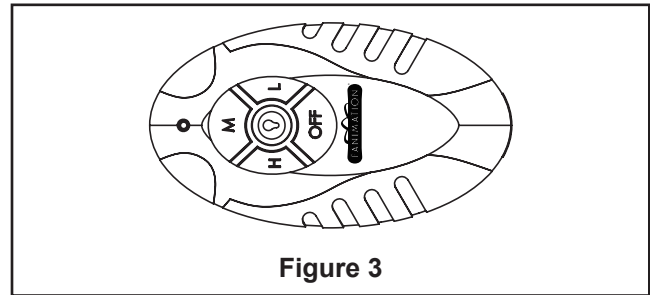

Figure 3
3. Loosen the two set screws in the downrod support. Route blue, brown and orange lead wires through the downrod (Figure 3).
2. Carefully lift the fan and seat the downrod/hanger ball assembly on the hanger bracket that was just attached to the outlet box. Be sure the groove in the ball is lined up with tab on the hanger bracket (Figure 3).
2. Connect wires to terminal block as indicated: Green hanger bracket and hanger ball wires to green/yellow (earth) wire. Brown receiver unit wire (AC IN L) to red/brown live supply wire. Blue receiver unit wire (AC IN N) to blue/black neutral supply wire. Orange receiver unit wire (AC IN L1) to orange for light. Position all connected wires and receiver antenna to allow installation of ceiling canopy. Using canopy screws threaded into the hanger bracket reinstall ceiling canopy. Restore electrical power (Figure 3)
3. Remove one of the three screws in the support bracket at the bottom of the motor assembly. Slightly loosen the remaining two screws. Assemble the light plate upper assembly to the support bracket using the two key slots in the socket plate. Replace the third screw and securely tighten all three screws (Figure 3).
3. **LIGHT: ON/OFF-** Press and release immediately to turn on or off the light.(Figure 3)